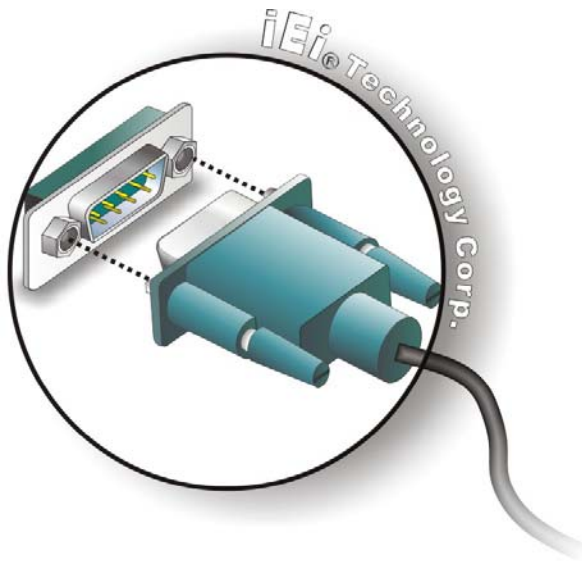

Figure 4-23: Serial Device Connector
Step 2: Insert the serial connector. Insert the DB-9 connector of a serial device into the DB-9 connector on the I/O interface panel. See **Figure 4-23**.